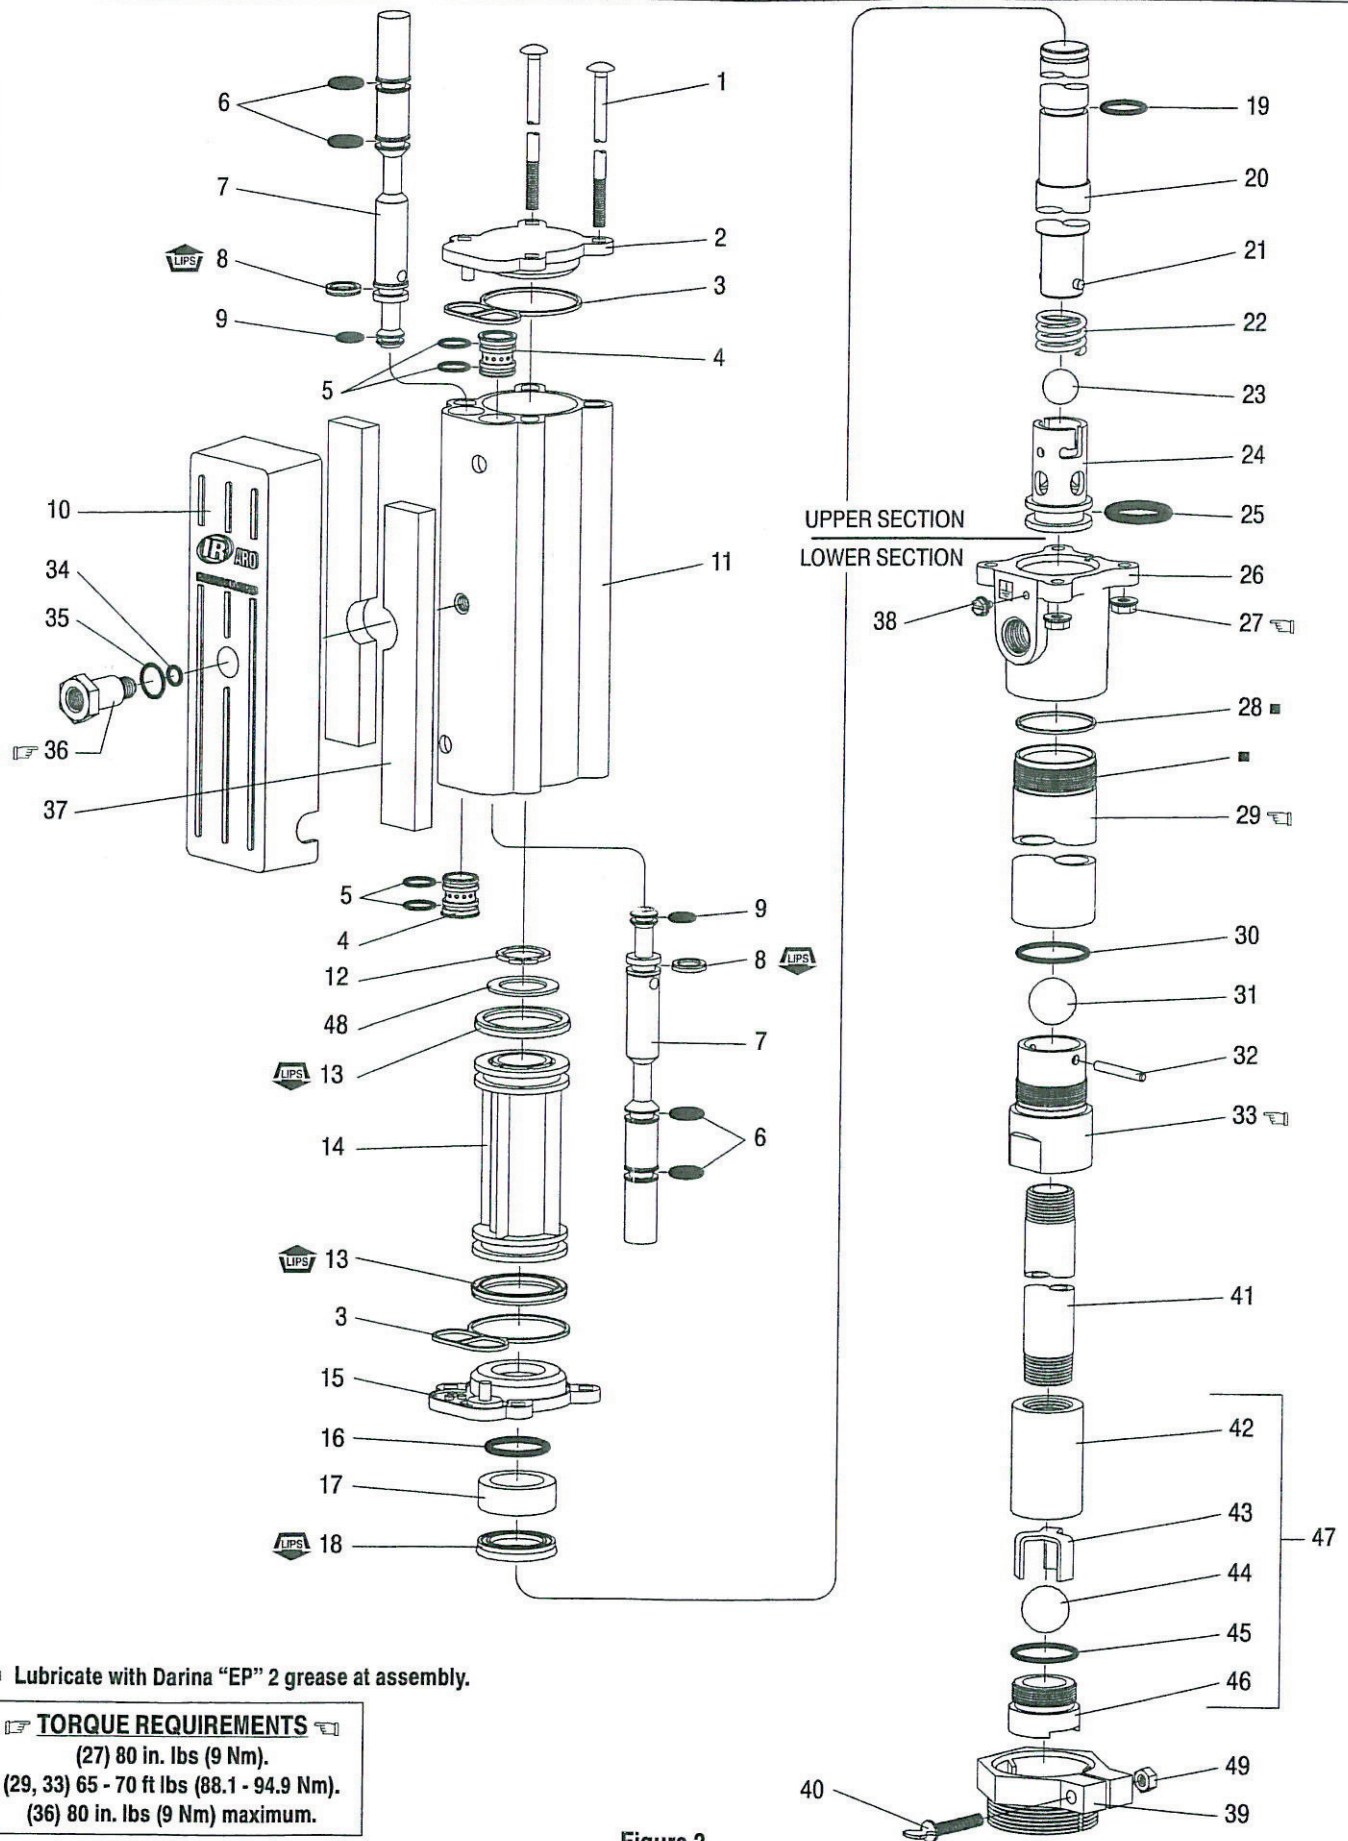

Figure 2
DISASSEMBLY – All threads are right hand. Refer to figure 2. These procedures are for the installation of repair kit parts. Disconnect air supply and relieve all system pressure prior to servicing. Carefully remove the parts, inspect parts for damage, nicks or excessive wear and determine if any parts will need replacement.
Note: Refer to the illustration (figure 2) for "U" cup lip seal direction.
1. Replace the seals on both the (7) spools and (4) sleeves.
2. Locate the valve chamber on the (11) cylinder where the 3/8" dia. hole is located and install one of the (4) sleeves. Insert the (7) spool from the opposite end. Next, install the remaining sleeve and spool.
3. Replace the (3) track gasket and install (2) cap.
4. Replace the (13) piston "U" cups (refer to figure 2 for proper orientation). Replace the (19) "O" ring and assemble (14) piston to (20) piston rod and retain with (48) washer and (12) retaining ring.
6. Replace the (3) track gasket and install the (15) cap. Install the (16) "O" ring onto the piston rod, replace (17) bushing and (18) packing.
7. Replace the (25) "O" ring and re-attach the (24) inner check.
8. Slide the pump assembly back into the (26) base / lower pump section. Press the sections together and align the air inlet and pump outlet as required and replace the four (1) bolts and (27) nuts (tighten to 80 in. lbs (9 Nm).